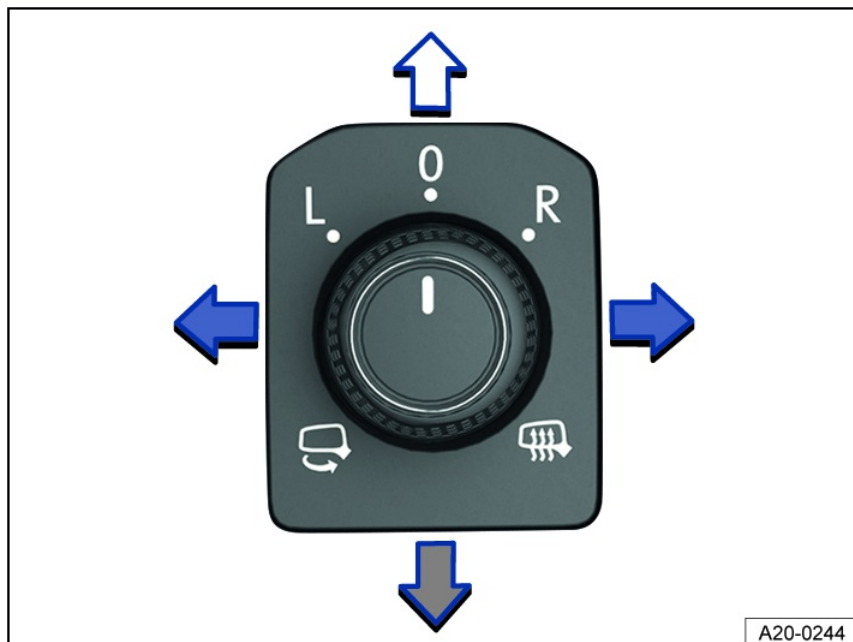

Fig. 108 In the driver door: knob for the outside mirrors.
2. Turn the knob in the driver door to the preferred symbol fig. 108.